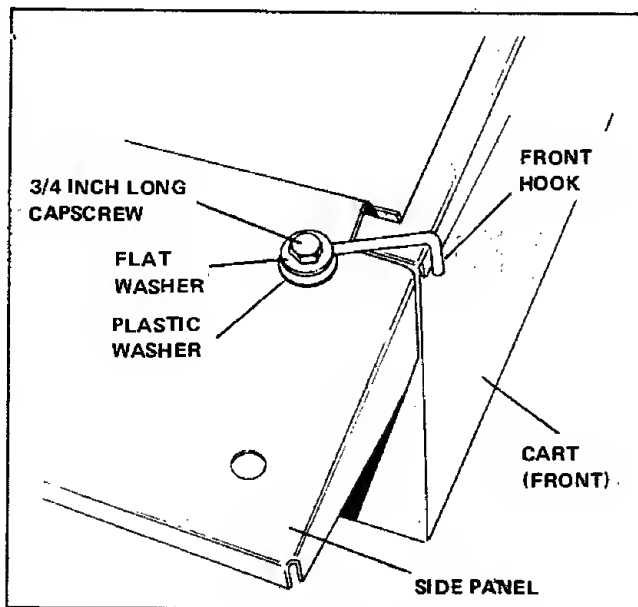

Figure 20. Installing Front Hooks
3. Attach the front hooks to the side panels as shown in figure 20, using a $\frac{5}{16}$ x $\frac{3}{4}$ inch capscrew, flat washers, plastic washer, and locknut. Place a flat metal washer above the front hook on the capscrew and a plastic washer below the front hook. Insert the capscrew through the side panel, and place another $\frac{5}{16}$ flat washer and locknut on the capscrew. Position the front hook as shown in figure 11 and tighten the locknut.